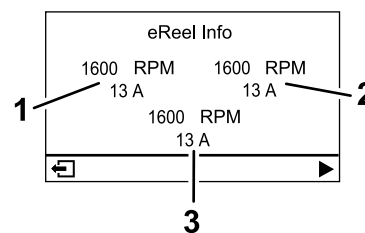

Figure 25
- **eReel motor screen (Figure 25):** shows the speed and current of each cutting-unit motor.